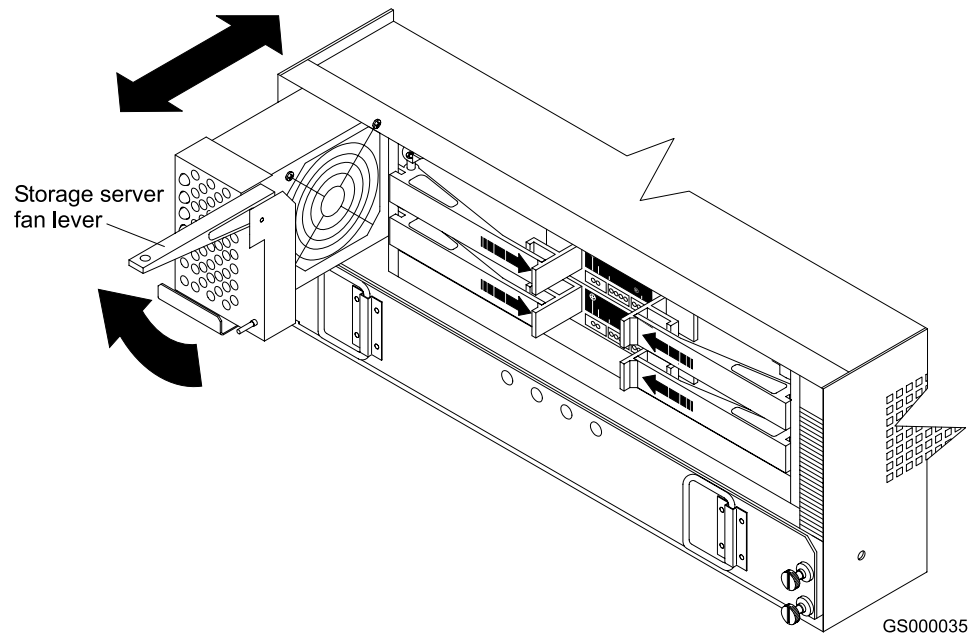
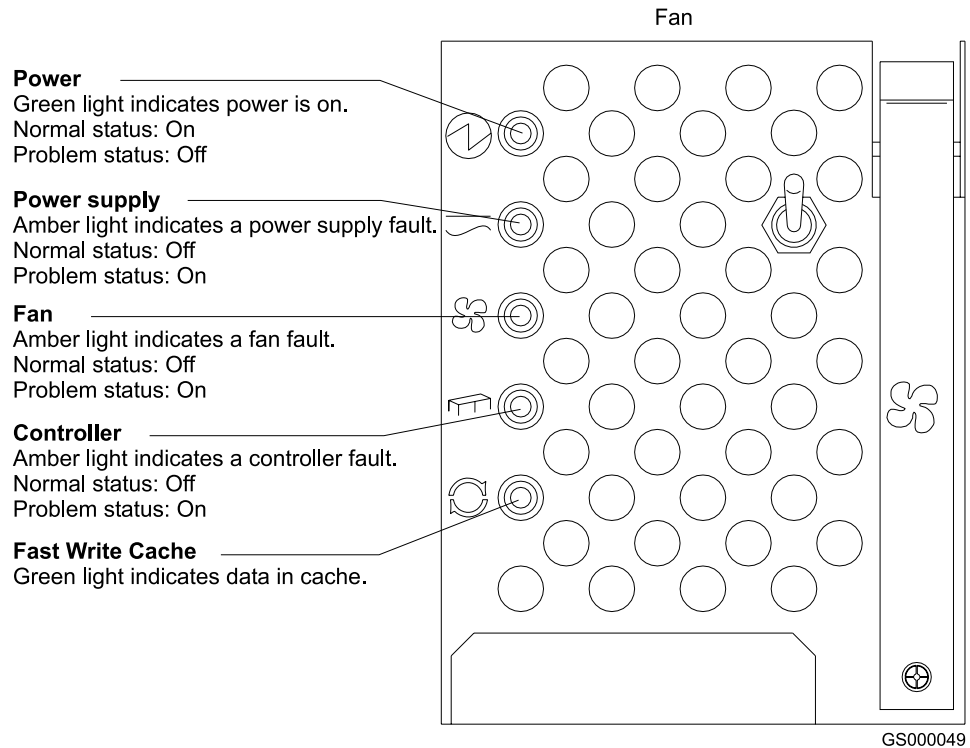

Figure 40. Removing and installing the storage server fan
Figure 41. Storage server indicator lights
The storage server fan is a single, removable unit that contains two cooling fans and temperature monitoring circuitry. The storage server fan plugs directly into a slot on the front of the FASt900 Storage Server, to the left of the controllers (see Figure 40 on page 46). Five indicator lights provide overall system status information (see Figure 41 on page 47). The dual fans in the storage server fan unit provide a redundant cooling system to both controller CRUs. If one fan fails, the other continues to operate, providing sufficient air circulation to prevent the controllers from overheating until you can replace the entire storage server fan.
2. Remove the failed storage server fan, as shown in Figure 40.
- Using Figure 41 as a guide, check the storage server indicator lights on the fan.